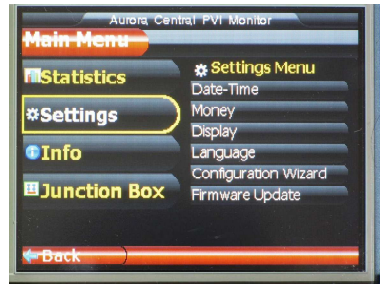
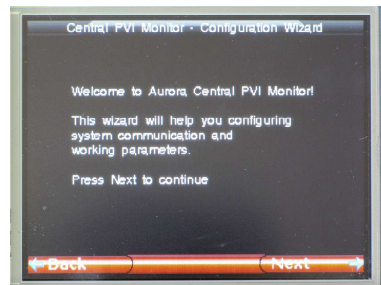

Figure 14-9: Settings menu
Figure 14-14: Configuration Wizard
In this section (Figure 14-9) it is possible to enter or change the object configuration parameters.
- In the Settings Menu click on the tab **[Configuration Wizard]** (Figure 14-9). The welcome screen will appear (Figure 14-14) which confirms the start up of the guided configuration of the communication.